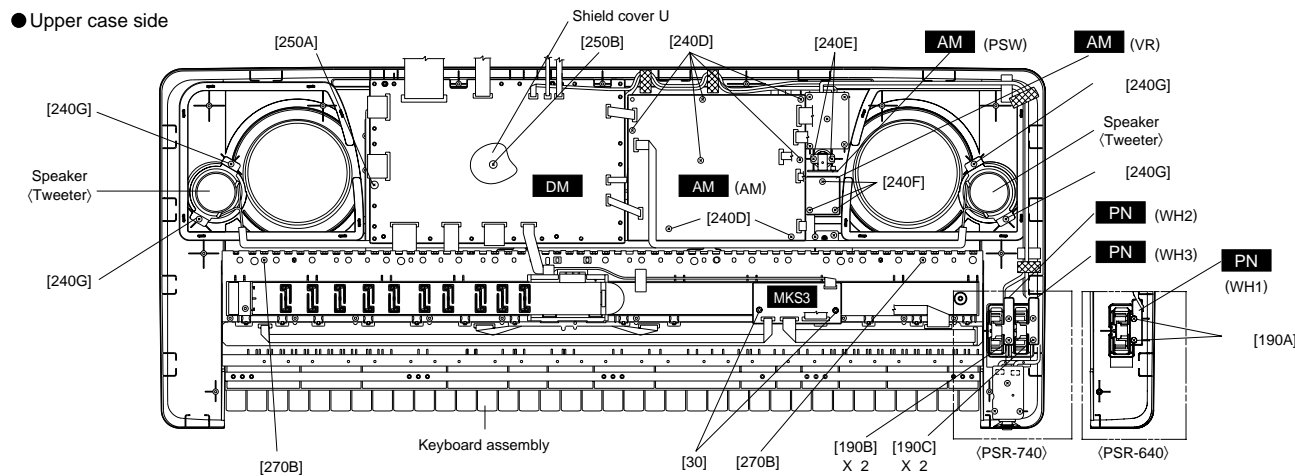

Fig.3
2-3 Remove the one (1) screw marked [250B]. The DM circuit board can then be removed. (Fig.3)
Remove the seven (7) screws marked [240D]. The AM(AM) circuit board can then be removed. (Fig.3)
Remove the two (2) screws marked [240E]. The AM(PSW) circuit board can then be removed. (Fig.3)
Remove the three (3) screws marked [240F]. The AM(VR) circuit board can then be removed. (Fig.3)
Remove the two (2) screws marked [190A]. The wheel assembly can then be removed. Remove the wheel with the spring from the wheel assembly. (Fig.3)
Remove the two (2) screws marked [190B]. The PN(WH2) circuit board can then be removed with the wheel. Remove the wheel from the PN(WH2) circuit board. (Fig.3)
Remove the two (2) screws marked [190C]. The wheel assembly can then be removed. Remove the wheel with the spring from the wheel assembly. (Fig.3)
- 8-2 Remove the four (4) screws marked [240G]. The right and left speakers(tweeter) can then be removed. (Fig.3)
- 9-2 Remove the two (2) screws marked [270B]. The keyboard assembly can then be removed. (Fig.3)
- 10-3 Remove the one (1) screw marked [240H]. The shield cover U can then be removed. (Fig.3)
- 10-4 Remove the AM(AM) circuit board. (See procedure 6-2.)
11. LCD(U) and LCD(L)
- 11-3 Remove the one (1) screw marked [240H]. The shield cover U can then be removed. (Fig.3)
- 11-4 Remove the AM(AM) circuit board. (See procedure 6-2.)
- 16-2 Remove the two (2) screws marked [30]. The MKS3 circuit board can then be removed. (Fig.3)